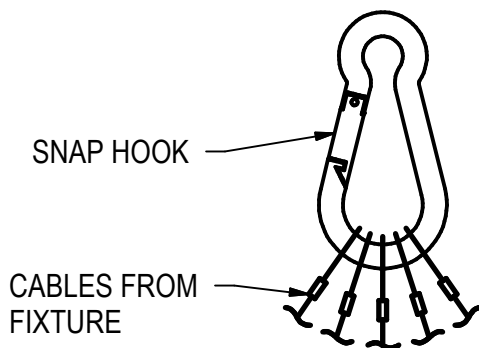

FIGURE 2
3. Use snap hook to hang the fixture from canopy assembly. (See FIGURE 2)